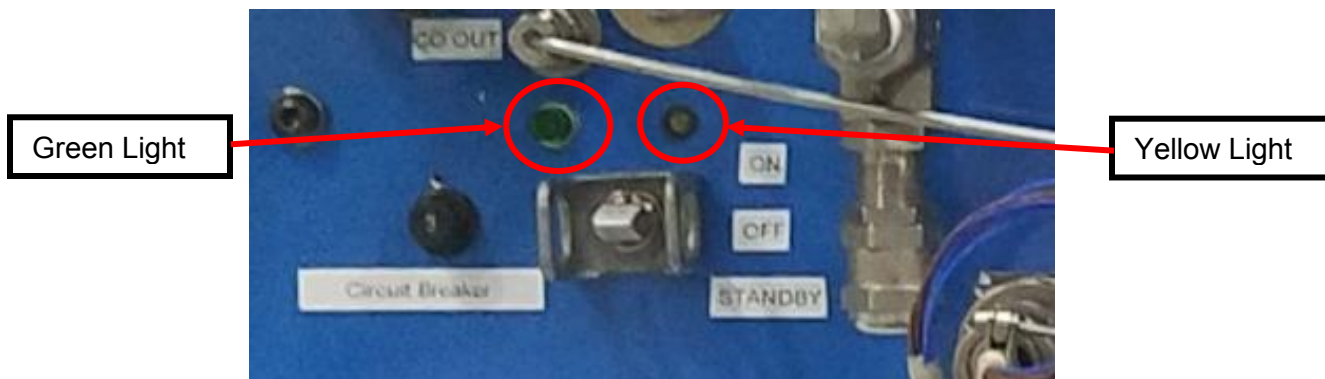

Figure 4: Sabatier Panel
3.1 On the Sabatier Panel, move the power switch to " S T A N D B Y" (see Figure 4).
3.2 Confirm yellow light blinks indicating Sabatier is in Standby mode (see Figure 4).
5.2 Switch Sabatier to "ON" (see Figure 4).
6.1 After the filtering time has been completed, on the Sabatier Panel, move the power switch to "STANDBY" (see Figure 4).
6.2 Confirm yellow light blinks indicating Sabatier is in Standby mode (see Figure 4).
7.1 Switch Sabatier to "ON" (see Figure 4).